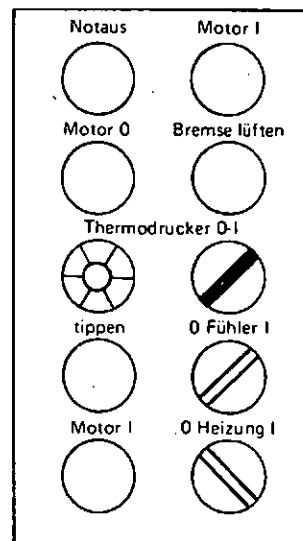

Fig. 109
4. Set the select switch to „I“ for machines which are equipped with a thermal printer (Figure 109).